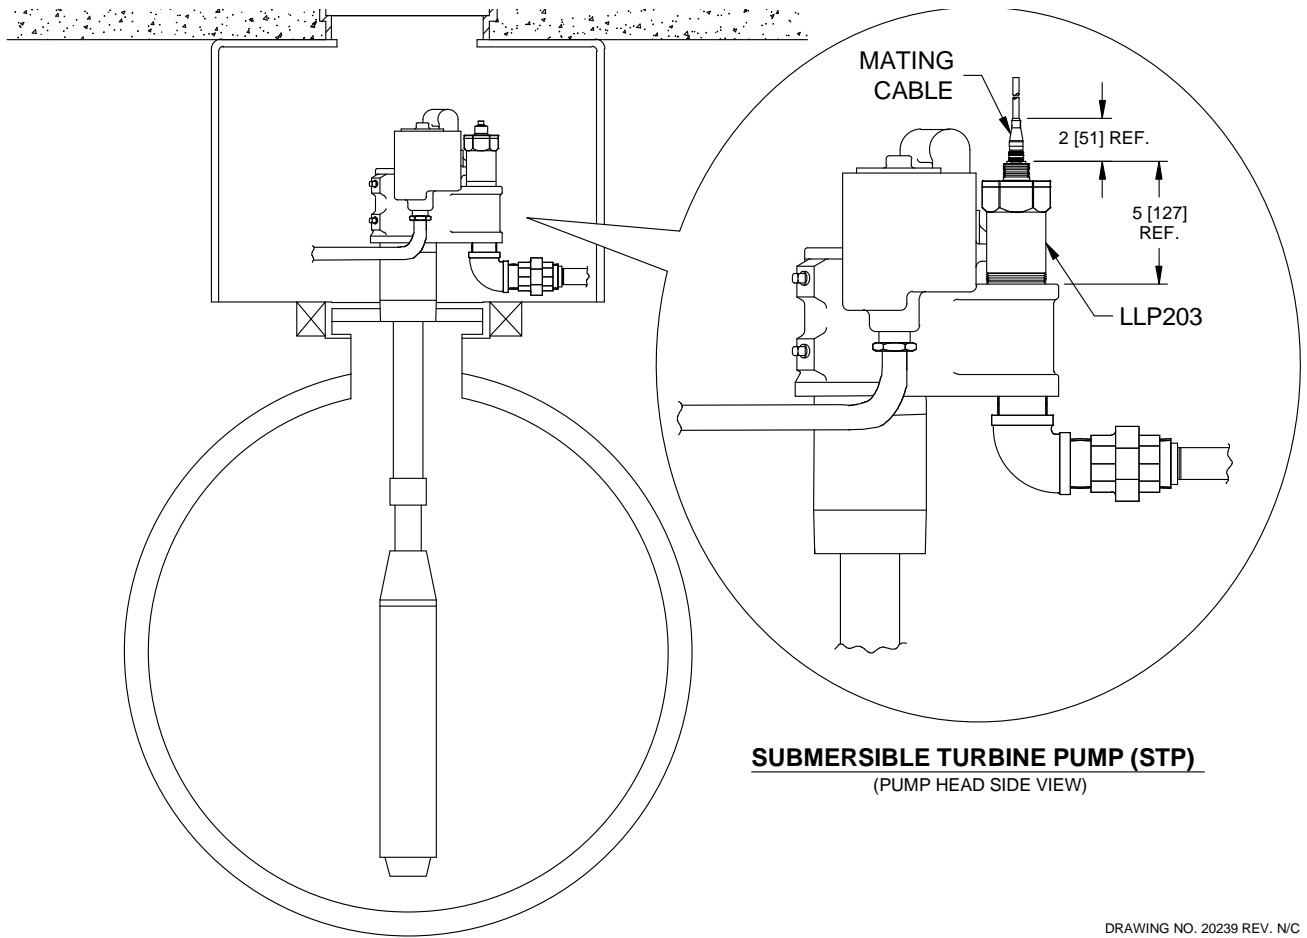

Figure 2-1: LLP203 Mounting in a Submersible Turbine Pump
4. Apply Petroleum resistant, non-hardening, UL Classified, FEP Pipe Dope/Thread Sealant (Hercules Megaloc, Gasoila, etc.) to the threads of the LLP203 Transducer and use a 2-3/8" open-end wrench to install it in the Leak Detector Port of the Pump housing (See Figure 2-1).